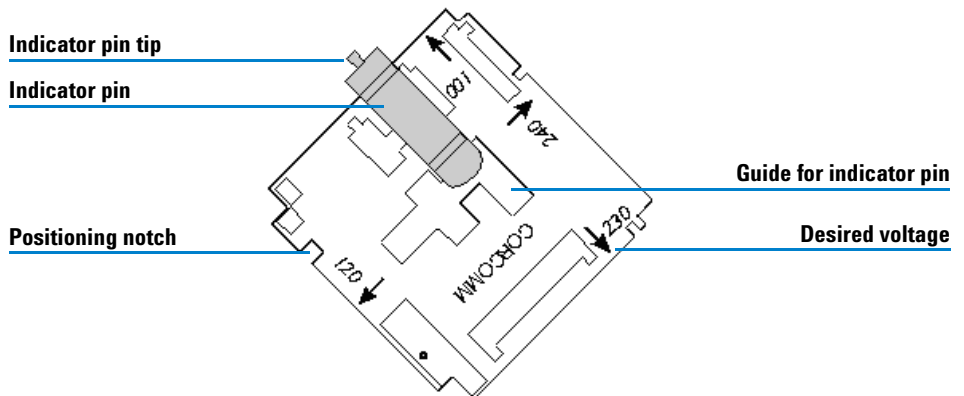

Figure 15 Voltage Selector Card
- 5 Move the indicator pin along the guide to the position opposite the selected voltage (see Figure 15). Seat the indicator securely into the positioning notch.